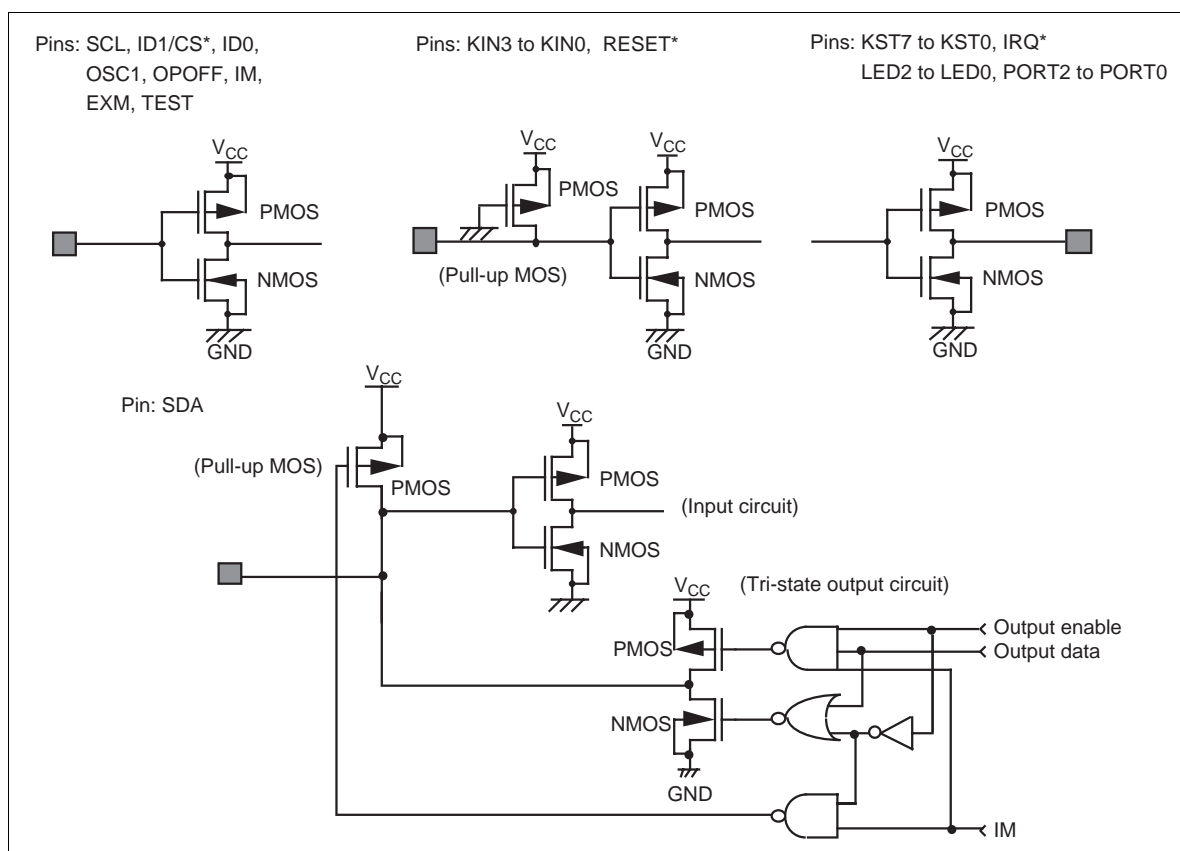

Figure 51 I/O Pin Configurations
5. The following four circuits are I/O pin configurations except for liquid crystal display output (Figure 51).